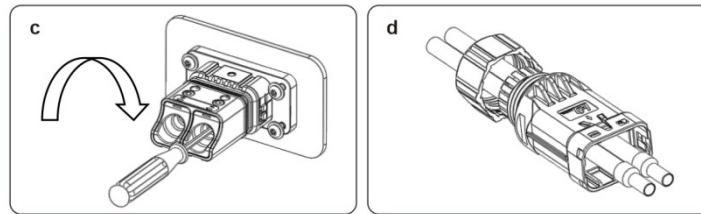

Fig. 4-24 Tighten connectors
Step4: Installing the communication harness: you will install the communication harness 1, communication harness 2 respectively to the position in Figure 4-24, and at the same time, cut the ties of the communication harness on the left side of the cabinet and connect the harness to the battery